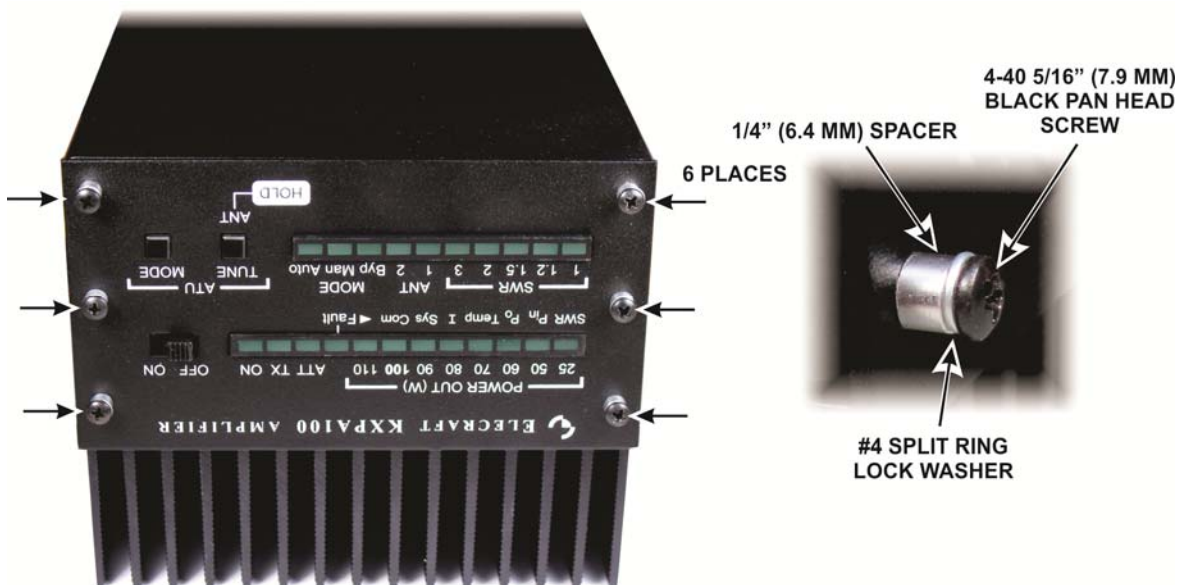

Figure 19. Mounting the Front Panel.
- Position the front panel so the LEDs, OFF/ON switch, TUNE and MODE buttons fit through the openings. Secure it with screws, lock washers and spacers just as you did on the rear panel (see. Figure 19).